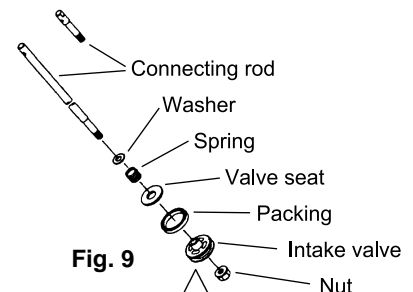

Fig. 9
- 9) Fix the connecting rod with the vice and unscrew a nut to remove the valve body and valve seat. (Fig. 9)